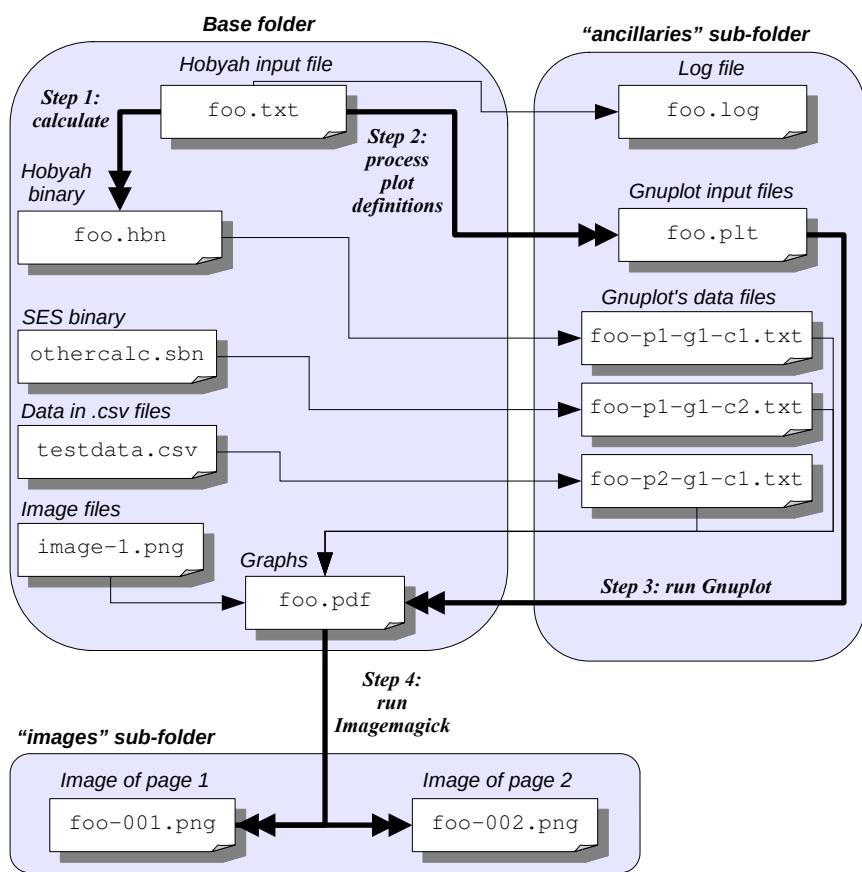

Figure 1.9: Program flow, files and folder structure
Figure 1.9 depicts the program operations and the locations of files and sub-folders generated/read when an input file for Hobyah (let's call it `foo.txt`) is fed to `Hobyah.py` for processing.
The large rounded rectangles in Figure 1.9 represent folders. There is one base folder, which holds the input file (`foo.txt` at the top left of the Figure). There are two subfolders within the base folder. One holds files that are either only of interest during debugging (the `ancillaries` folder), the other contains image files that would otherwise clutter up the base folder (the `images` folder).
The thick lines with double-headed arrows in Figure 1.9 represent a program running and generating new files. The thinner lines represent transfers of data from one program to another via files.
Hobyah runs its “calculate” function first and produces a new `.hbn` file full of calculation data (in this case, `foo.hbn` in the Figure). After finishing the calculation, it runs its “plot” function to generate files that can be read by Gnuplot. It then calls Gnuplot to generate one or more new `.pdf` files full of graphs. In most cases the process will end there (run a calculation, create one or more `.pdf` files of output). But it can be ordered to call ImageMagick to convert the pages of those `.pdf` to `.png` images (step 4 in Figure 1.9).
Some notes on the files and folders shown in Figure 1.9:
- **`foo.pdf`:** this holds one or more pages of graphs/images generated by the `plot` function. These graphs may be of calculation results in `foo.hbn`, from calculation results in other binary files, (like `othercalc.sbn` in Figure 1.9), from `.csv` files (like `testdata.csv`) and may include images (like `image-1.png`). More than one `.pdf` file may be created.
It is worth reiterating that Hobyah input files can be used purely for calculating (step 1 in Figure 1.9) or purely for plotting (steps 2 and 3 in Figure 1.9). It is useful to be able to run a calculation once then run without recalculating as you adjust the graph extents or add annotations.